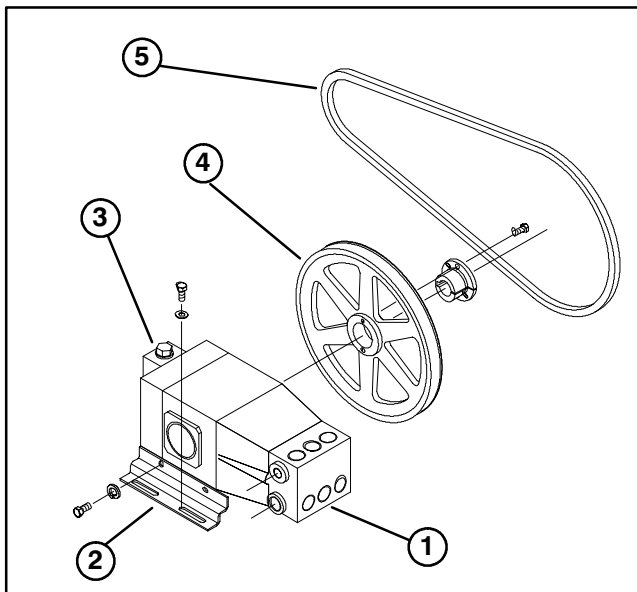

Figure 4
3. Disconnect (2) hoses secured to pump.
5. Mount a bracket to each side of new pump with (2) capscrews and washers included in kit. Position brackets as shown in figure 4.